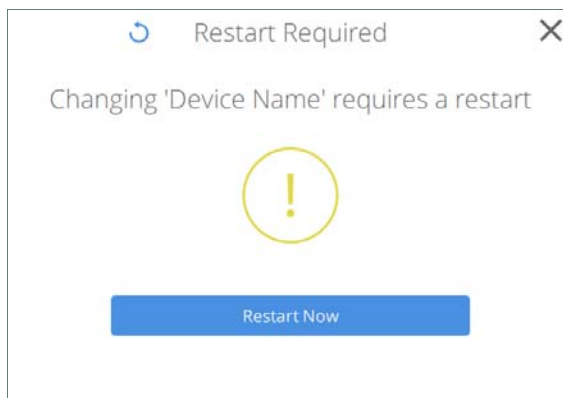

FIG. 45 Transfer - Restart Required
- If a device name changes, the system indicates that a restart of the Acendo Vibe unit is required (FIG. 45):